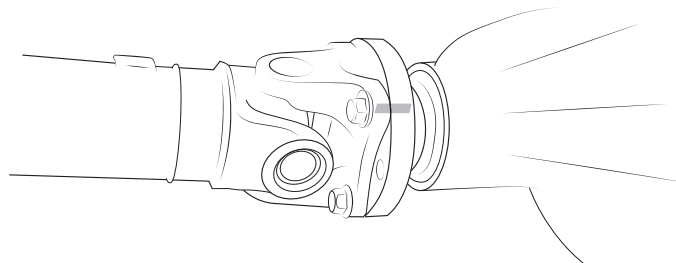

Figure 8
24. Remove the front and rear drive shafts. Make sure to mark these before removal to ensure proper orientation and balance later (fig 8).